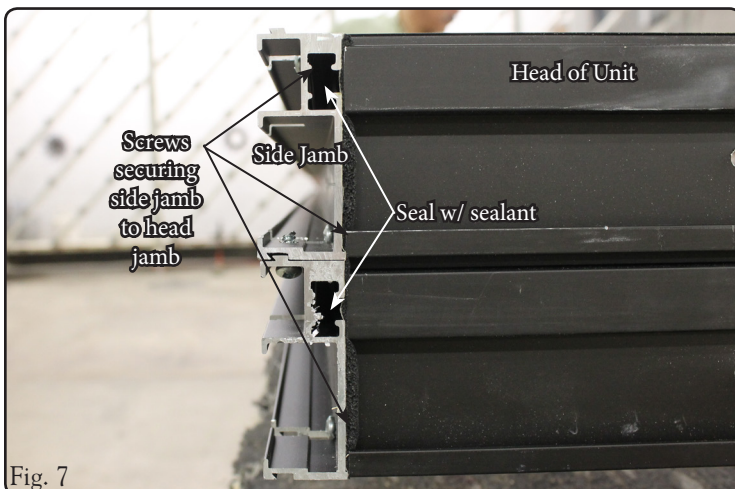

Fig. 7
- Seal the end of the open cavities at the head and sill of the side jambs with sealant. (Fig. 7)